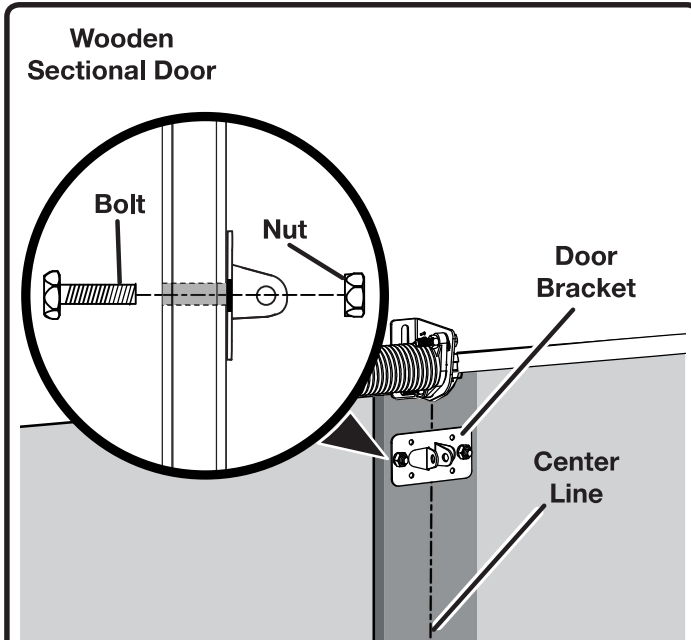

Fig. 42
**NOTE:** For wooden doors, drill hole completely through the door and install bracket using bolts (not provided) and nuts (not provided), see figure 42.